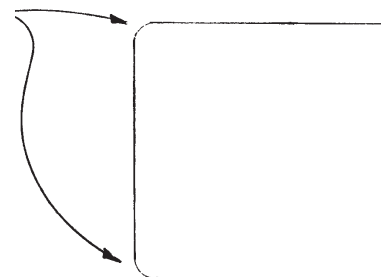

FIG. 12
- ___16. Round over all sharp edges of the dulcimer box so they feel smooth to your hand. (fig. 12) A router with a 1/4” rounding over bit makes this job simple, but you can do the job by hand with a sanding block, or use a random-orbit palm sander. Follow up with medium sandpaper (by hand) to remove any scratches.